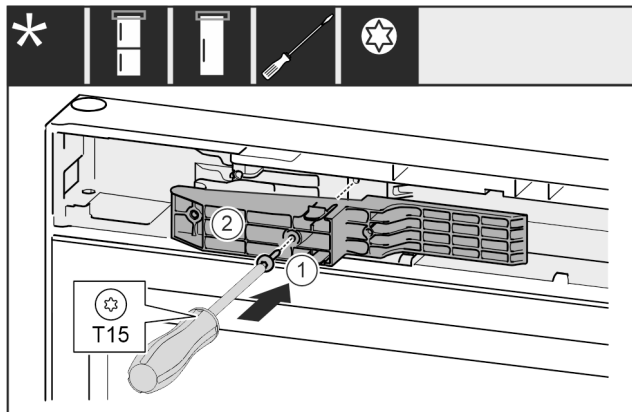

Fig. 70 \*
- ▶ Insert adapter Fig. 70 (1) in the recess on the handle side.\*
- ▶ Tighten screw Fig. 70 (2) with screwdriver.\*